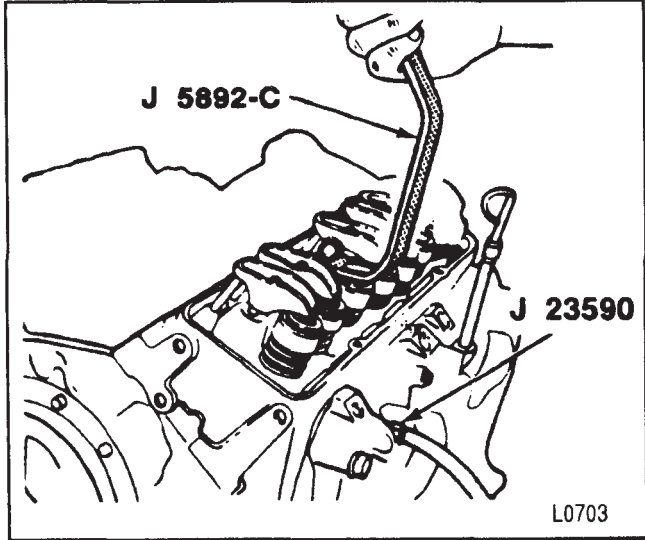

Figure 10—Compressing the Valve Springs
- C. Install a rocker arm nut (figure 10).
- D. Use J 5892-C to compress the valve spring (figure 10).
5. Cap (21) and/or rotator (28), shield (22) and spring (26) with damper (25).
6. O-ring seal (23).
7. Seal (24) (intake valve only).
2. Spring (26) with damper (25), shield (22) and cap (21) and/or rotator (28).
3. New O-ring seal (23) and valve keepers (20).
- A. With air pressure applied to the cylinder with J 23590, compress the spring with J 5892-C (figure 10).